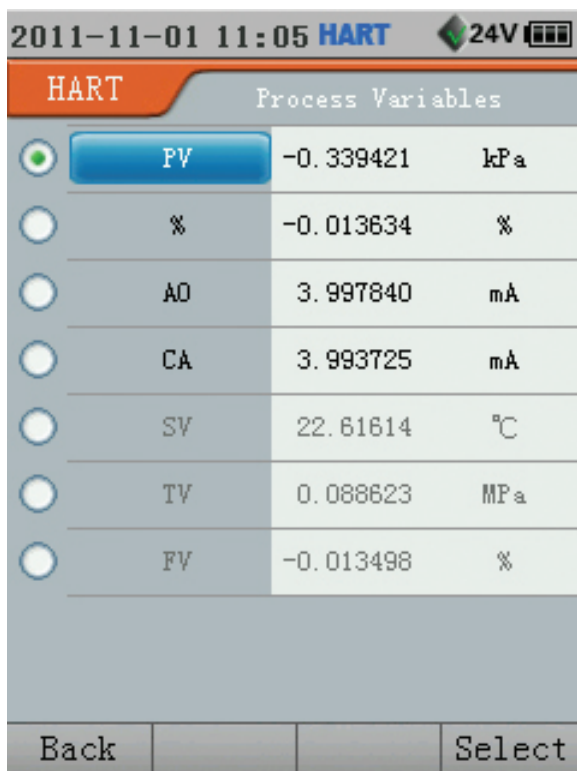

Figure 11.5 HART Process Variables
When the HART Communication Interface is active, you can press **Process** to show HART Process Variables interface (Figure 11.5). In this interface you can view more HART Process Variables including primary variable (PV), range (%), PV current value (AO), loop current (CA), secondary variable, third variable, and fourth variable, PV, %, AO, and CA are selectable (Figure 11.4).